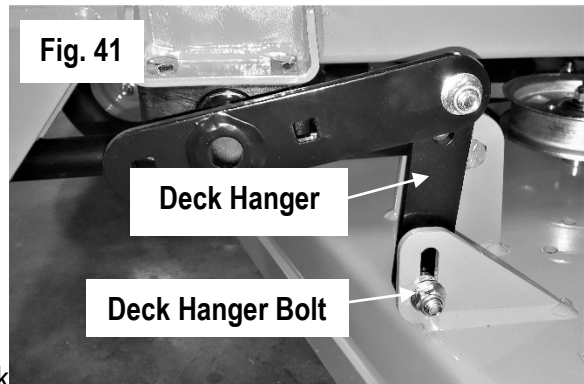

Fig. 41
4. Using a pair of $\frac{9}{16}$ " wrenches, loosen all deck hanger bolts on the top of the deck. These are the lower bolts in the slots of the deck as shown in Fig. 41. Do not loosen the upper bolts that attach the deck hangers to the actuator lift bars.